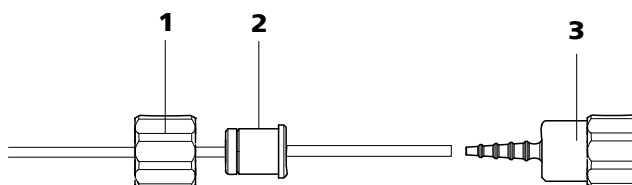

Figure 31 Install pump tubing connection without filter
- **Case B:** a 6.2744.160 pump tubing connection **without filter** (see figure 31, page 48).